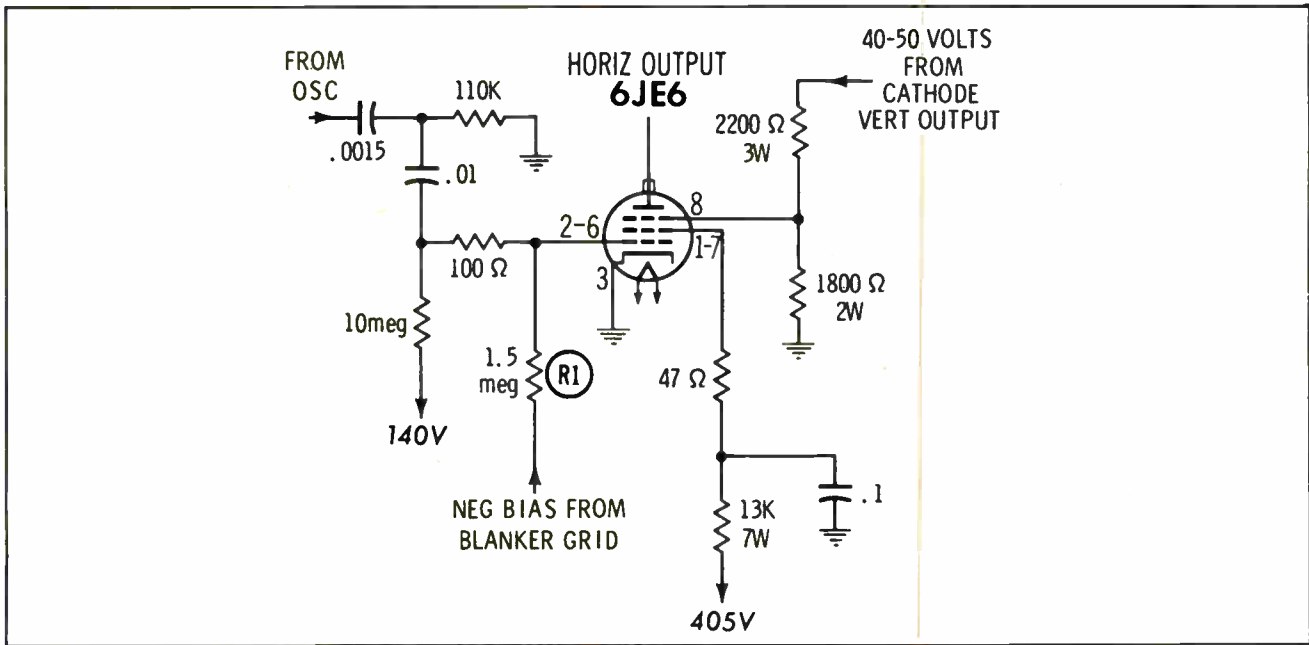

Fig. 9-5. High-voltage runaway protection.
any receiver. For example, if the high-voltage regulator tube does not conduct for some reason, *high-voltage runaway* can take place—the high-voltage output rises to 30 kv in typical cases and destructive arcing is quite likely to result. You will find that some of the late-model color receivers have a protective circuit to prevent high-voltage runaway, as shown in Fig. 9-5. In case the high-voltage regulator fails, the blanker tube generates more signal-developed bias, which is in turn applied to the grid of the horizontal-output tube via resistor R1.
- d. Open protective resistor (R1 in Fig. 9-5).